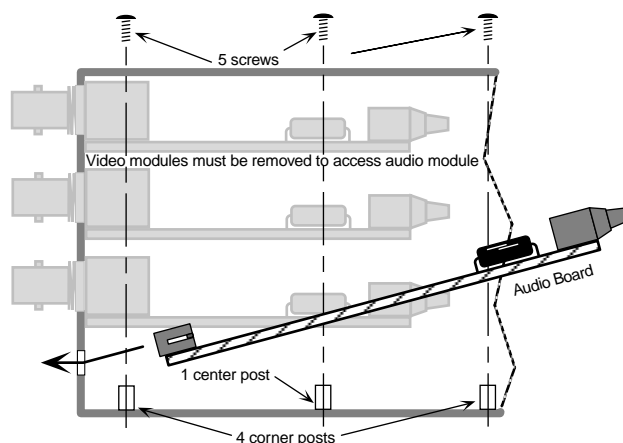

Figure B-5 — Installing the audio board
3. Insert the audio module into the Matrix 50 chassis and position the board such that the input/output connector strip on the module protrudes through the audio slot in the rear panel of the switcher (figure B-5).